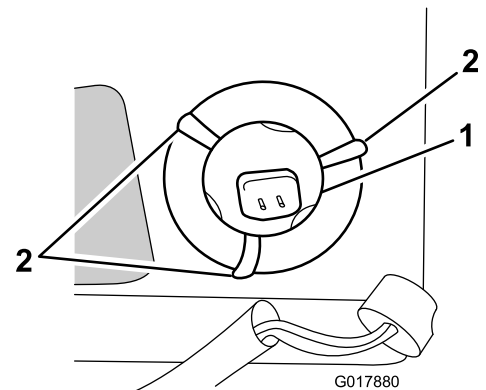

Figure 31
7. Bend the wire tabs in the metal sleeve (that hold the bulb in place) out of the way; refer to Figure 31.